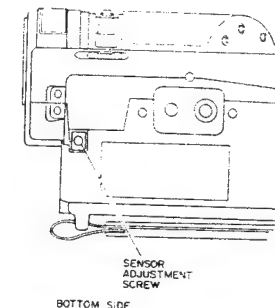

Fig. 4-81
(1) Autofocus Sensor Position Adjustment (Fig. 4-81)